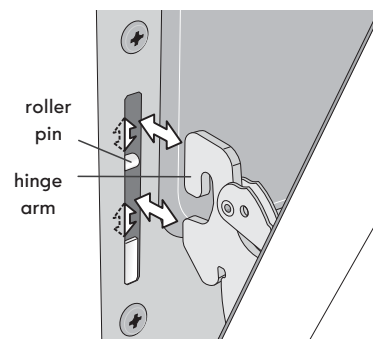

Figure 24: Hinge pin locations
5. With the oven door in the broil stop position, lift the oven door hinge arms over the roller pins located on each side of the oven frame (Figure 24).
2. Holding the oven door at the same angle as the removal position, seat the hook of the hinge arm over the roller pins located on each side of the oven door frame (Figure 24). The hook of the hinge arms must be fully seated onto the roller pins.